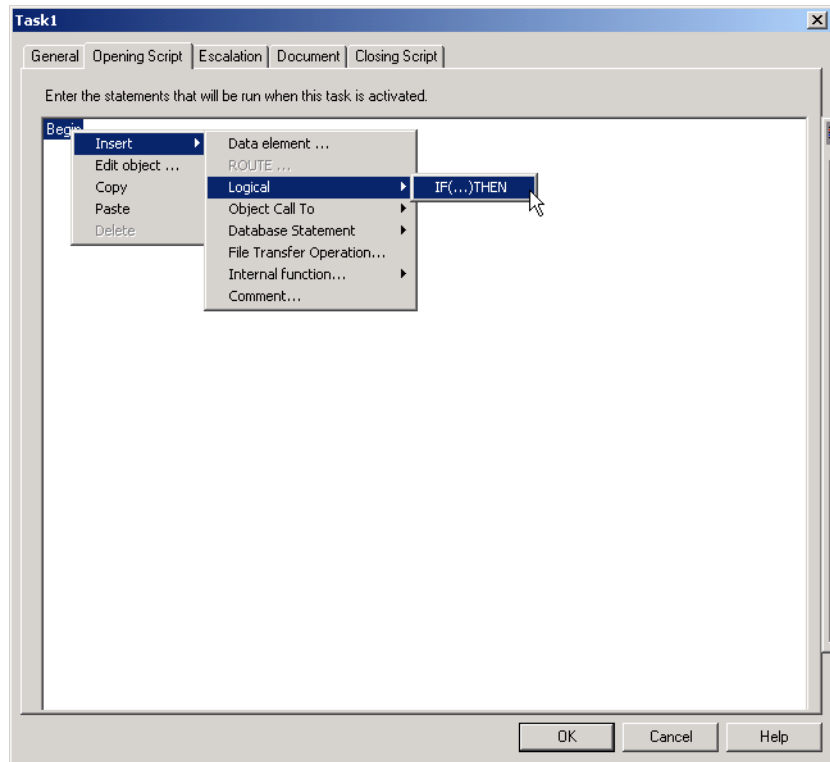

Figure 31-5. Opening Script tab with new If/Then statement being inserted.
- ❶ To insert an If/Then statement, double-click on any task. The Task Configuration dialog appears.
- ❷ Select the **Opening Script** or **Closing Script** tab, right-click on the Begin statement, select **Insert**, select **Logical**, then select **IF(...)THEN** (see Figure 31-5, below).